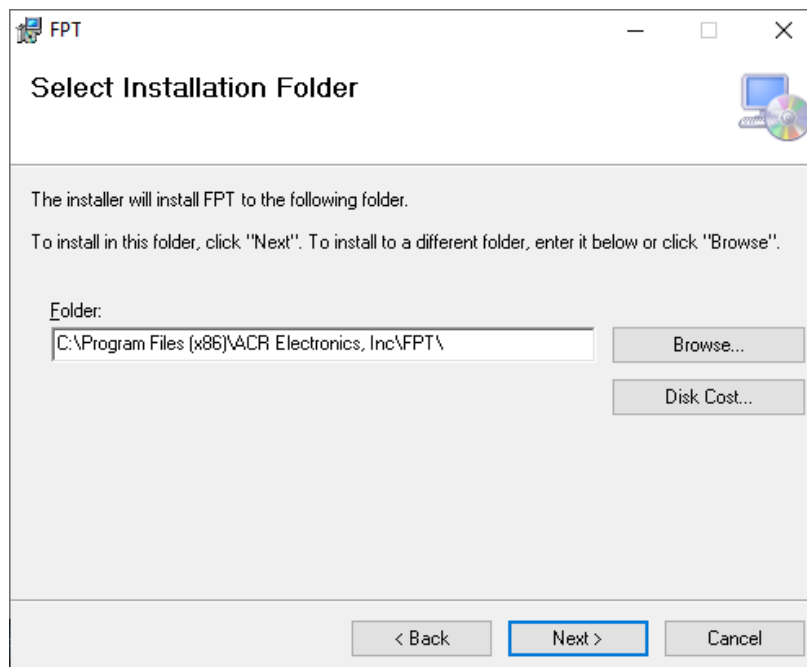

Figure 28 - FPT Installer
9. Verify that the install location is the following path: **C:\Program Files (x86)\ACR Electronics, Inc\FPT\** (Figure 28).